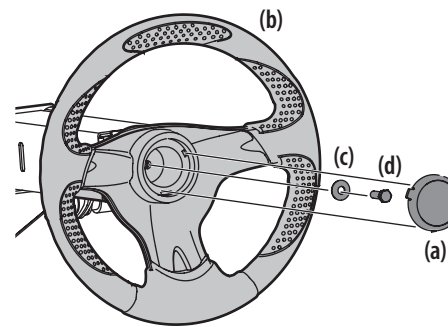

Figure 2-6
- Place the Belleville washer (c) over the steering wheel (b) and secure with the hex lock screw (d). See Figure 2-6.